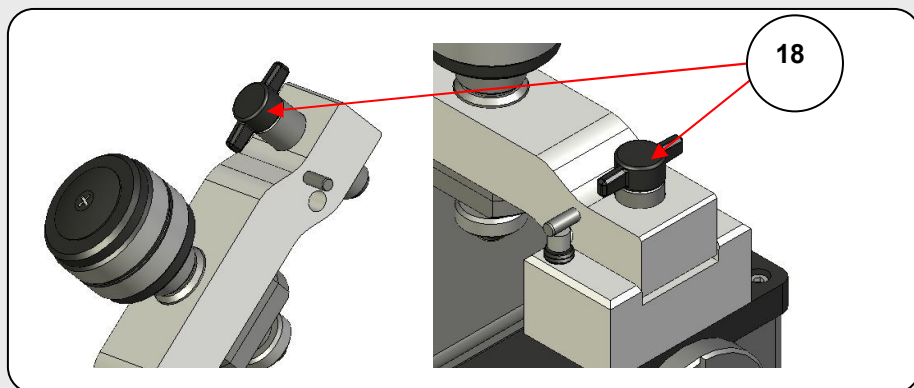

Figure 13. Silver Gate™ direction of T shaped Quick Lock/Release knob (18) when bridge is open (unlocked) and closed (locked)
The Silver Gate™ bridge and clamp anvil assembly (15) is provided with a special built in torque limiter screw assembly (16). For solid sampling, an appropriate anvil (13) is fitted to the clamp head pressure pin (14). A solid sample is placed upon the ZnSe or Ge ATR crystal to cover it completely and the bridge is closed and locked to the bridge support block (17). The bridge is locked shut by pushing down on the T shaped black quick lock/release knob (18) and turning it a 90° angle clockwise. (When the bridge is unlocked and open the T shaped locking knob is parallel to the direction of the bridge – see Figure 13.)